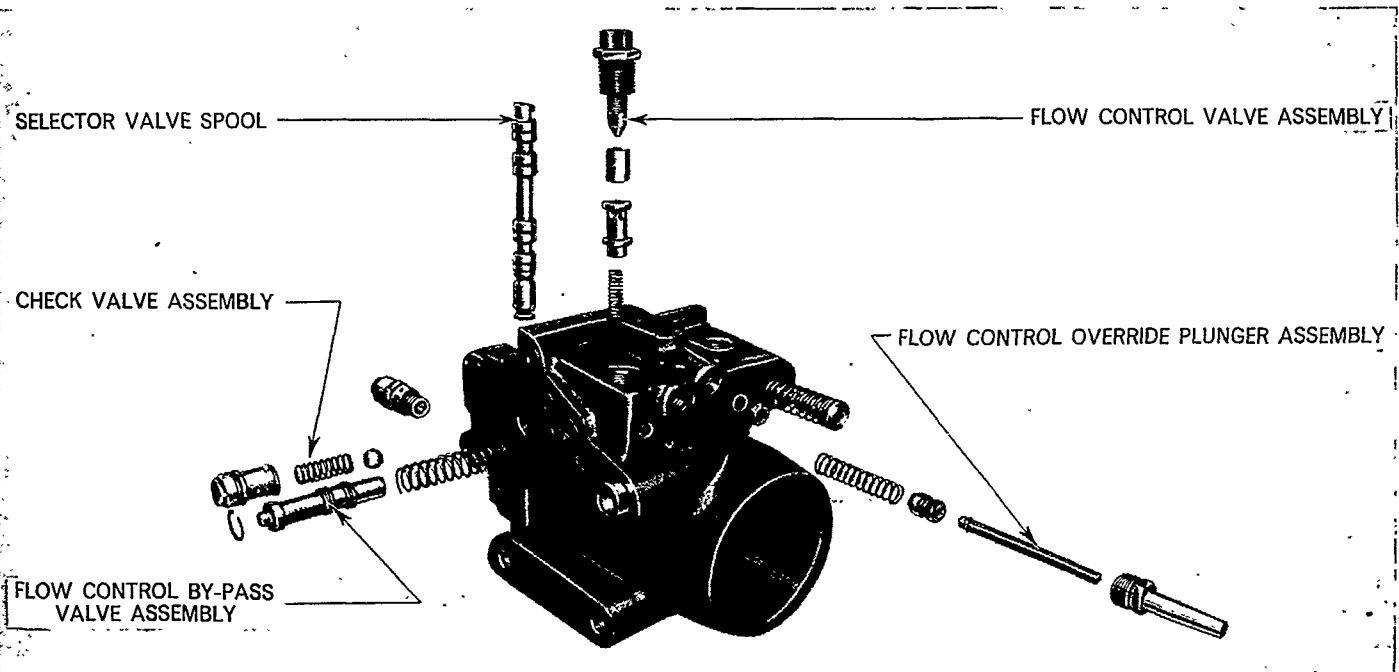

Figure 61
An exploded view of the lift cylinder assembly is shown in Figure 61.
10. Remove the check valve, which is situated in the machined face of the lift cylinder, by hooking a piece of wire round the groove at the end of the valve. Remove also the spring and ball, Figure 61.
12. Remove the flow control valve plunger by unscrewing the nut, Figure 61.
13. Remove the flow control by-pass valve spool, Figure 61, by removing the retaining circlip. The spring pressure should be sufficient to push the plunger out. Remove the spring.